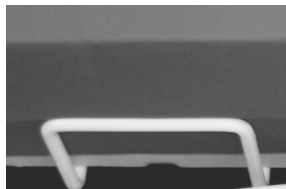

Figure 2 – Mattress retainer
3. Visually inspect that the mattress is between the mattress retainers on each side of the bed frame (Figure 2).